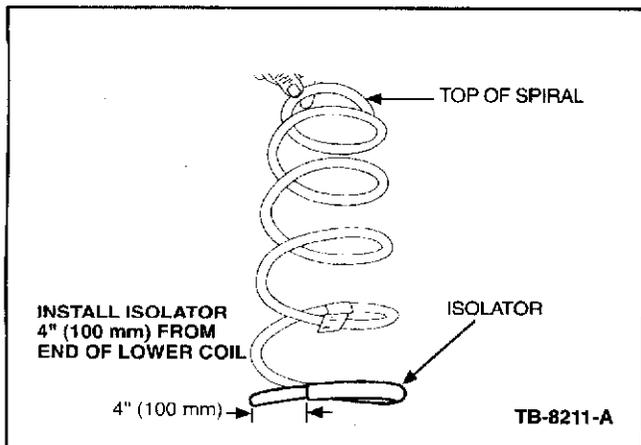

Figure 1 - Article 05-9-11
3. If the springs do not have a rubber isolator on the bottom spring coil, install isolators. Clean off any dirt prior to installing the isolator. The isolator should be installed 4" (100 mm) from the end of the coil (Figure 1).